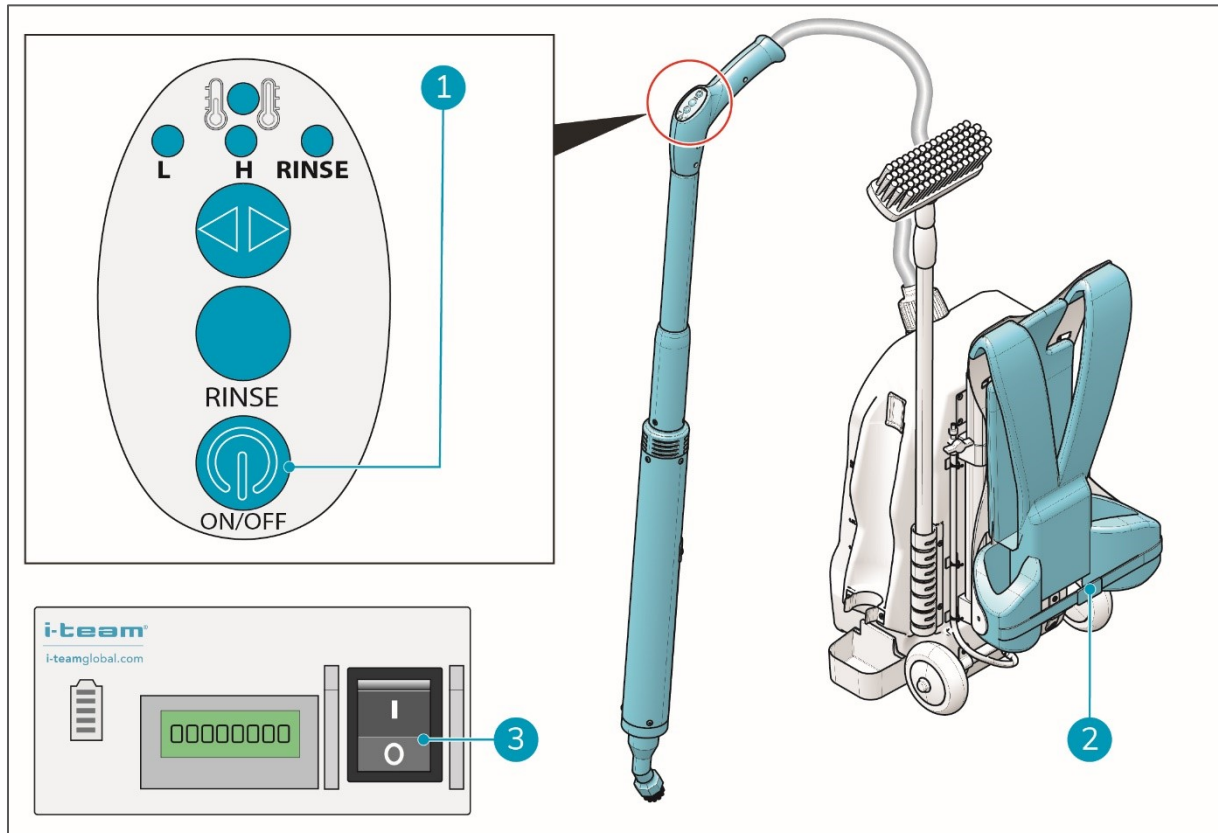

Figure 19
1. Turn off the steam via the ON/OFF button (fig 19, pos 1).
2. Remove the backpack and close the strap (fig 19, pos 2) to hold the waistband together.
3. Turn off the i-gum® via the main power switch (fig 19, pos 3).